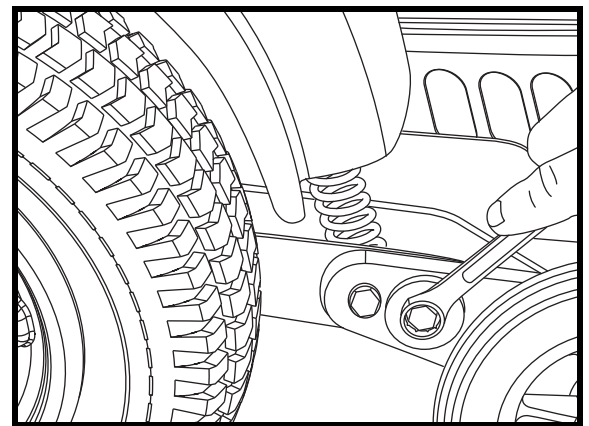

Figure 21. Anti-Tip Wheel Adjustment (Cam)
4. To adjust the anti-tip upward, turn the cam anticlockwise. To adjust the anti-tip downward, turn the cam clockwise. See figure 21.